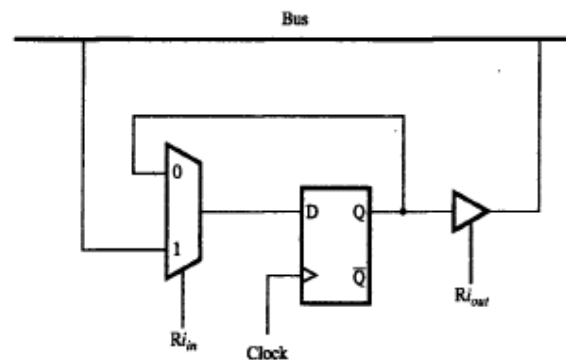

Figure 7.3 Input and output gating for one register bit.
- $Ri_{in}=1$ \square mux selects data on bus. This data will be loaded into flip-flop at rising-edge of clock. $Ri_{in}=0$ \square mux feeds back the value currently stored in flip-flop (Figure 7.3).